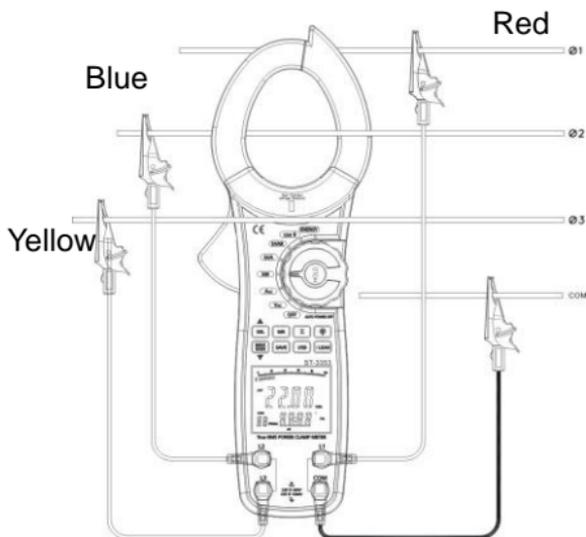

Figure 6
3. Connecting method (see figure 6, 7, 8):
- When measuring 3 phase 4 wires, connecting the Meter as figure 6.
In figure 6 $\Sigma W = W1 + W2 + W3$.
3. The connecting method of 3 phases 4 wires or 3 phases 3 wires, refer to figure 6 and 15
3. The connecting method of 3 phase 4 wires and 3 phases 3 wires, see figure 6 and 15